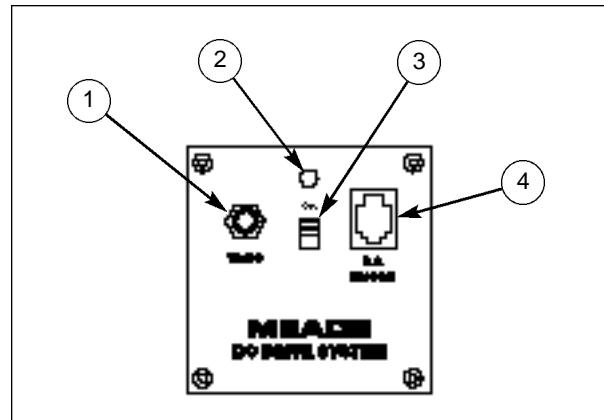

Fig. 2: Control Panel. (1) 12vDC Outlet; (2) LED Indicator Light; (3) On/Off Switch; (4) R.A. Encoder Plug.
The R.A. encoder plug (4), Fig. 2, is used if the Magellan I Computer System is purchased for the Meade 16" Starfinder. Details of how this additional encoder plug is used can be found
The On/Off switch (3), Fig. 2, activates the DC motor drive system (described on page 9). When the switch is "on", a red LED will illuminate. When the red LED on the panel shines steadily, the system is working properly and the battery is sufficiently charged. When the LED begins to blink, this indicates the internal battery pack is losing its charge and will soon need to be replaced.